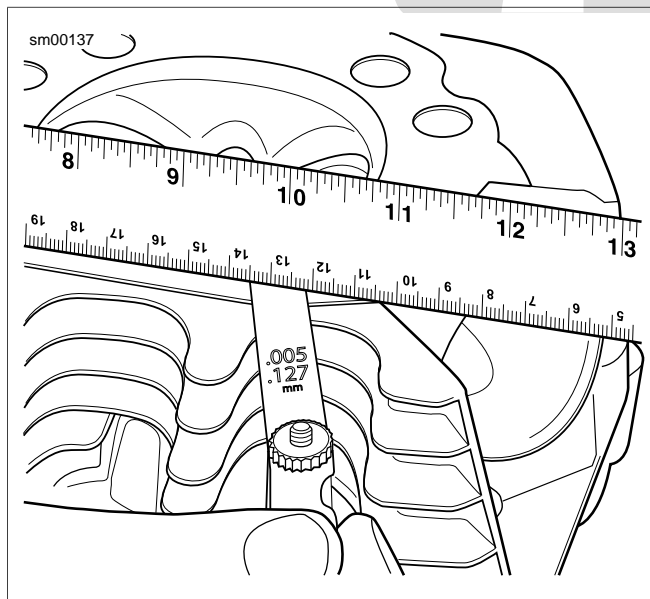

Figure 3-48. Checking Gasket Surface
4. See Figure 3-48. Check head gasket surface on head for flatness. Machine or replace any head which exceeds SERVICE WEAR LIMIT of 0.006 in. (0.152 mm).